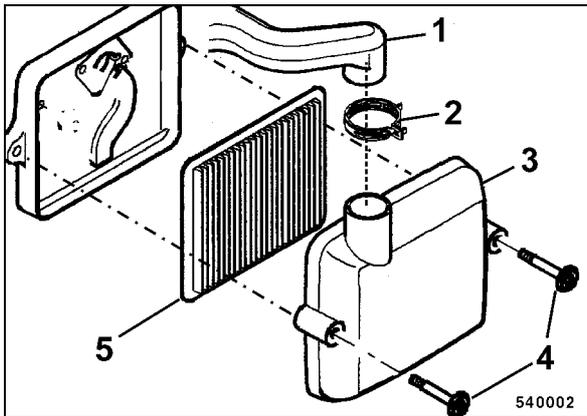

Fig. 63
- Loosen hose clamp 2 (Fig. 63) and pull the air supply hose (1) off the air filter housing.
- Unscrew two fastening screws (4) and remove cover (3) from the air filter housing.
- Pull the dry air filter cartridge (5) out of the housing.